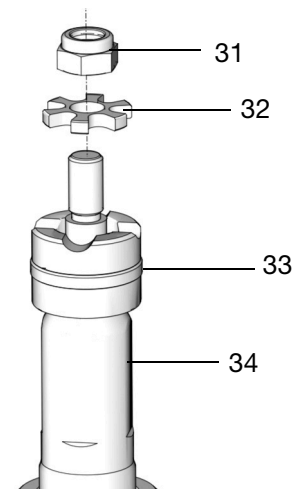

FIG. 36
13. Apply a thin layer of grease to the piston seal (33). Install the piston seal over the piston rod (34).
14. Install the star washer (32) and the lock nut (31) on the piston rod (34), as shown in FIG. 36